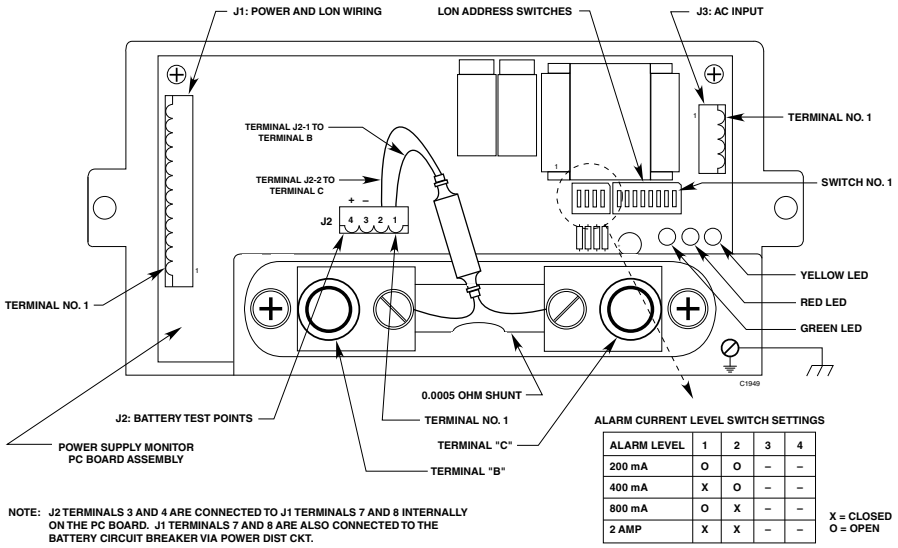

Figure 3-18—Power Supply Monitor Terminal and Switch Location
The Power Supply Monitor uses two of the four DIP switches to select an appropriate fault level for the installation. See Figure 3-18. The unit will fault when the batteries source a current level higher than the threshold for 20 seconds. The fault will clear when the current drops to half the level for 20 seconds. The current level selection is based on the minimum current draw of the attached equipment. The selected value must be less than the actual minimum current draw for the system.
4. Connect external wiring to the appropriate points on Power Supply. Refer to Figure 3-18 for terminal block locations and Figures 3-19 and 3-20 for terminal identification. Connect the 24 vdc power wires and the LON network cable to the appropriate points on J1. (Redundant "+", "-", and shield terminals are connected internally.) **Do not** ground any shield at the monitor / power distribution cabinet. Insulate the shields to prevent shorting to the device housing or to any other conductor.
Measure the battery voltage at terminals 3 and 4 of terminal block J2. See Figure 3-18 and 3-22.